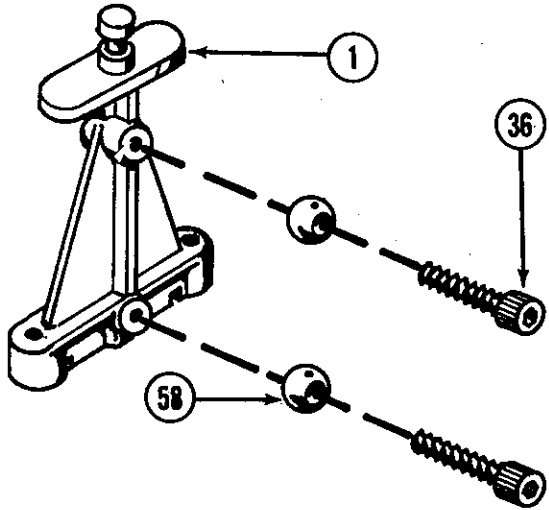

FIG. 22
3. Insert a 4-40 x 1/2" sockethead screw (36) through a 1/4" ball (58). This will create one composite ball joint. Fig. 22.
5. Thread one composite ball joint into the top hole of one side bulkhead (1) so the 1/4" ball (58) is on the outside and can just spin freely. Fig. 22.
6. Repeat step 5 with lower hole in same side bulkhead (1). Fig. 22.
7. Repeat steps 5 and 6 with other side bulkhead (1). Fig. 22.